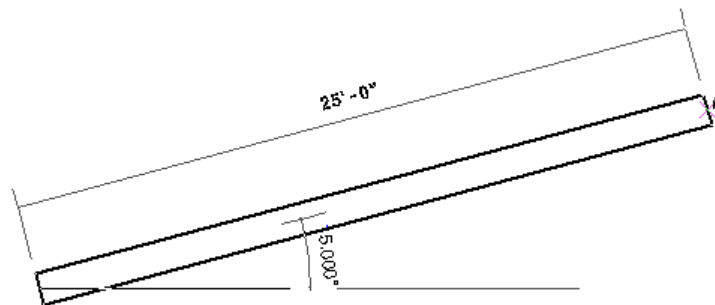

Figure 2-23 The angle and temporary dimensions are displayed on the wall being sketched
- f. Sketch the exterior walls based on the given parameters, refer to Figures 2-23 through 2-32.
3. Choose **View > Zoom > Zoom-in-Region** from the menu bar or type **ZR** and zoom into the area to get a closer view of the sketched wall segment, as shown in Figure 2-23 (for zooming techniques see Chapter- Introduction to Autodesk Revit Building). Notice that the cursor moves in incremental values set in the **Snaps Option**. The angle subtended by the wall on the horizontal axis is also visible and keeps changing dynamically as you stretch the wall with the cursor.